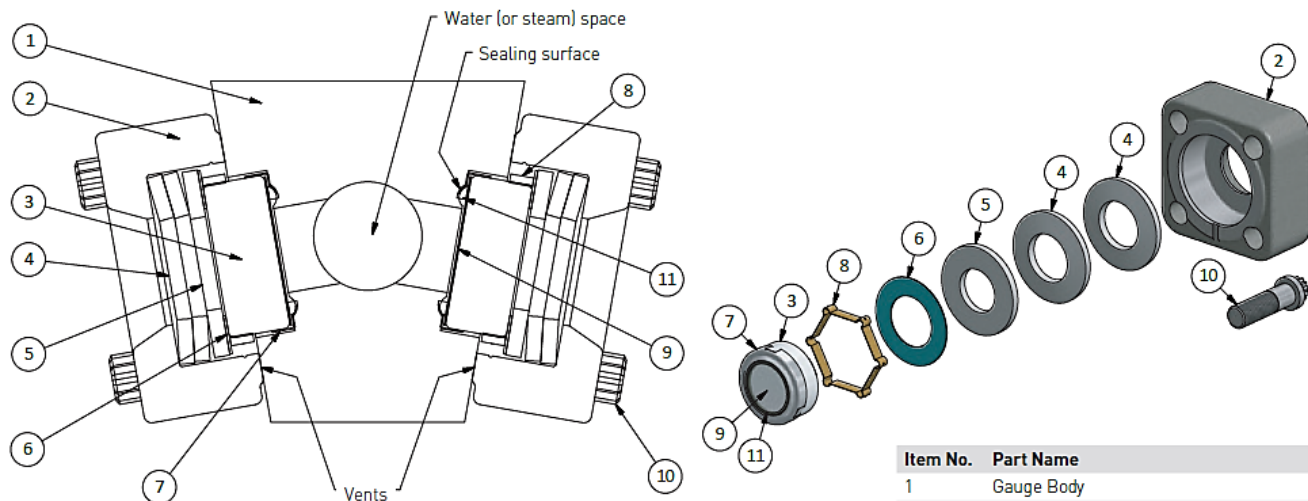
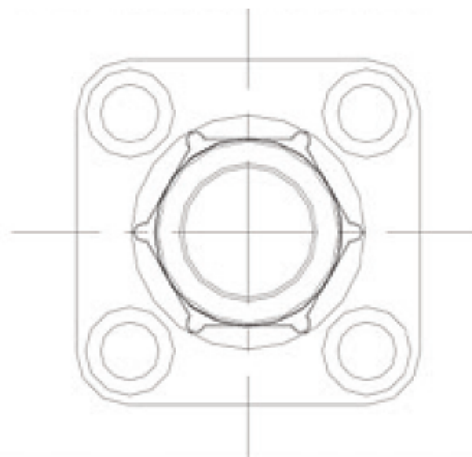

FIGURE 3B
FIGURE 4
(Numbers in parenthesis refer to items in Figure 3B)
3. Loosen and remove the cap screws (10). Use a 3/8" socket wrench.
4. Remove the viewing port assembly completely. Figure 3B shows a cross section. Retain the cover (2), spring cones (4), washer (5), and retaining spring (8). Discard the used cushion gasket (6) and the used glass-mica-clip ring assembly (7, 11, 9 and 3).
(Number in parenthesis refer to items in Figure 3B)
1. Lightly lubricate the cap screw (10) threads with high temperature anti-seize compound.
2. Properly orient spring cone(s) (4) into the cover (2). See Figure 3B. Note that the conical shape touches the cover on the large diameter and makes contact with the flat washer (5) on the smaller inside diameter.
3. Place the flat washer (5) on top of, and in contact with spring cone(s) (4).
4. Place the cushion gasket (6) in contact with the flat washer (5).
5. Install the retaining spring (8) into the cover. See Figure 3B.
6. Taking the repair kit as an assembly (glass, mica, sealing gasket, and clip ring) insert it directly into the retaining spring and into contact with the cushion gasket (6). See Figure 3B and Figure 4.
7. Inspect for assurance of proper assembly and clean parts. The sealing gasket (11) should be firmly centered in the clip ring (7). **Caution:** handle the glass, mica, gasket and clip ring assembly by the edges only. When installing, do not touch or apply pressure directly on the gasket or mica.
10. Tighten the cap screws (10) uniformly with 3/8" socket wrench until metal-to-metal contact is just made, then tighten to 22 – 25 ft•lb (29.8-33.9 N•m). Do not use a power wrench. Further tightening may damage the cap screws, body or cover.